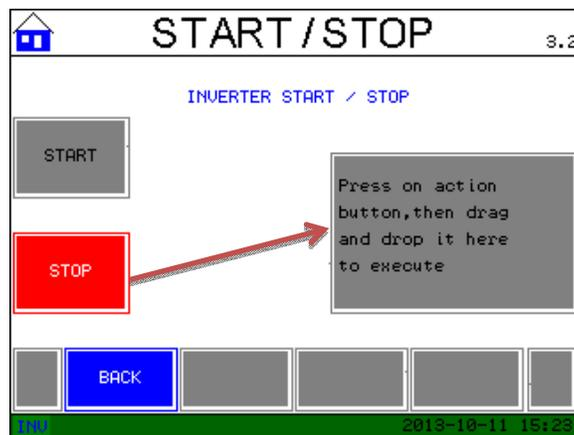

Fig. 4-17
Step 2: Drag and drop the red “stop” action square to the larger gray square to the right. The UPS will transfer to static Bypass mode (Fig. 4-17).